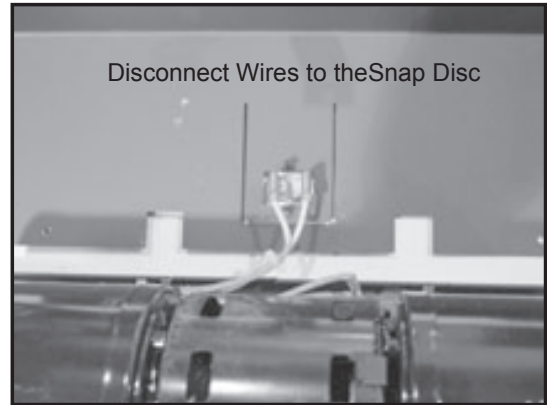

Figure 20.4
7. Gently rotate the shield up to expose the connections that are made to the snap disc. Disconnect the wires that attach to the snap disc. **Figure 20.4.**